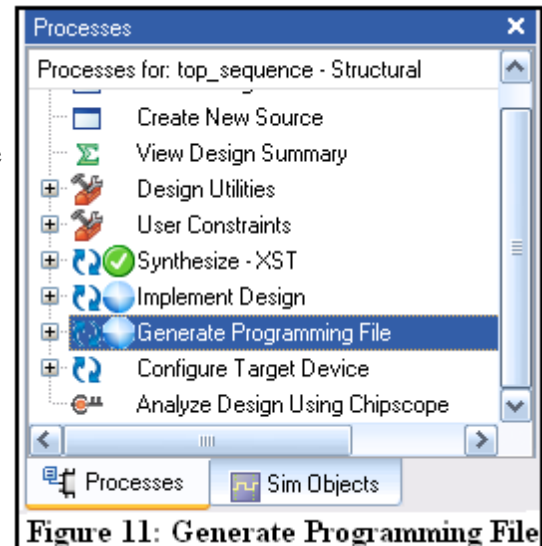

Figure 11: Generate Programming File
9. It is time to program the Spartan 3E board. In the **Processes** window you have to run the “Synthesize - XST”, “Implement Design”, and “Generate Programming File” processes. Instead of doing each one separately, you can double click on “Generate Programming File”. This will run all the processes. See figure 11.